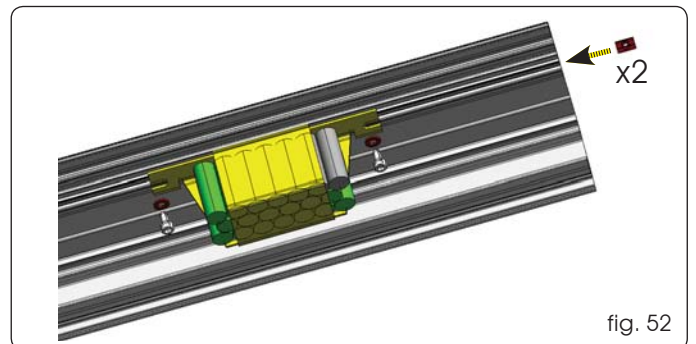

fig. 52
- Fit two plates in the support profile as shown in Fig. 52.